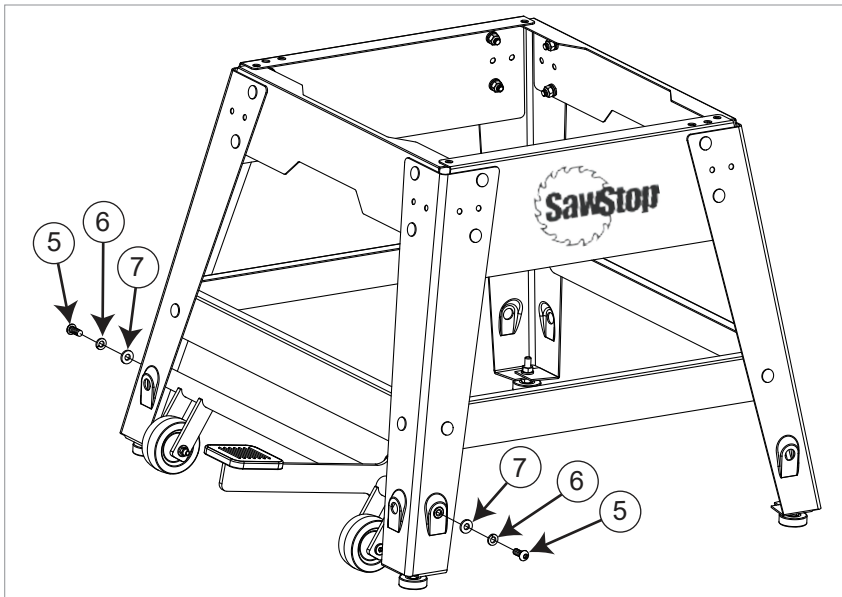

Fig. 4a
- Each end of the wheel support has a cylindrical projection. Mount the wheel support to the left side of the stand by inserting the cylindrical projections into corresponding mounting holes in the legs of the stand, and then securing the support to the stand with two M8 x 20 button head socket screws, two M8 lock washers, and two M8 washers, as shown in Figs. 4a and 4b. Fully tighten the two M8 x 20 button head socket screws using a 5 mm hex key. When you mount the support to the stand, make sure the foot pedal is extending out to the left.